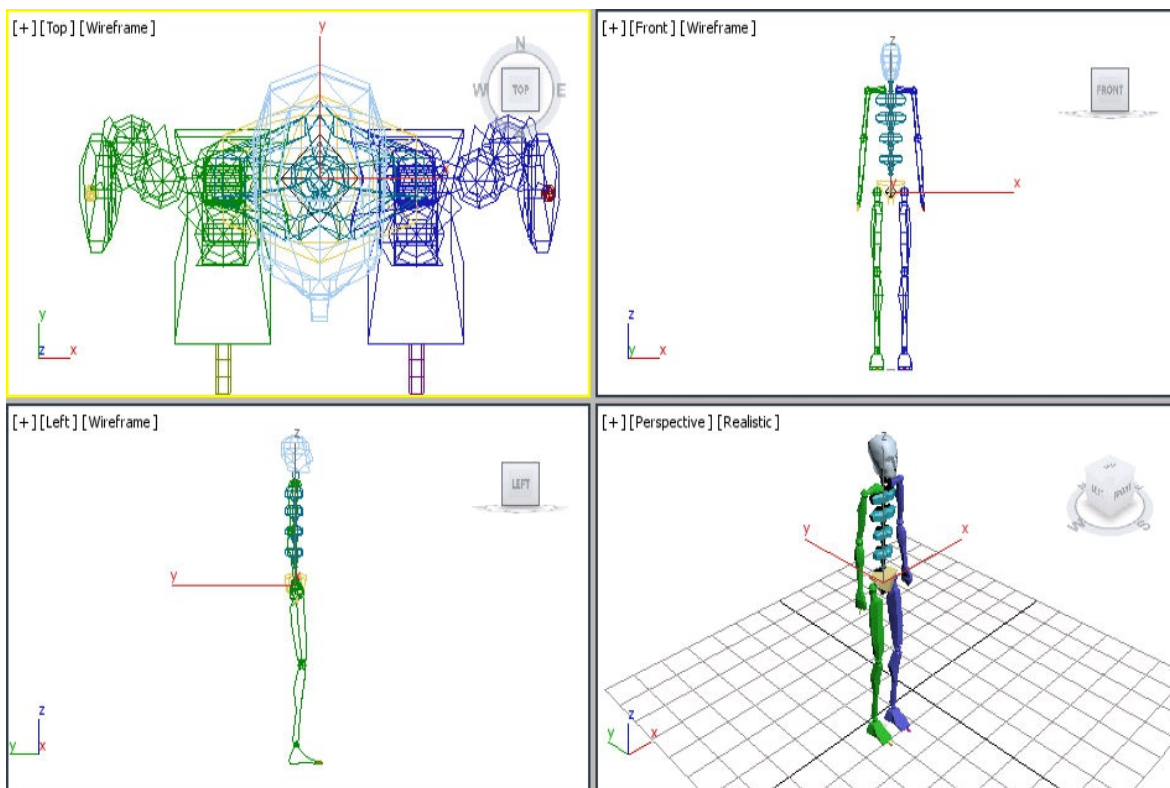

Figure 15-31 *The biped model displayed in viewports*
3. Choose the **Zoom Extents All** tool; the biped model is displayed in the viewports, as shown in Figure 15-31.